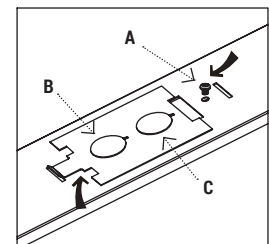

Figure 3
1. Loosen the screw (Part A) by using the phillips screwdriver on the back of the fixture. (Figure 3)